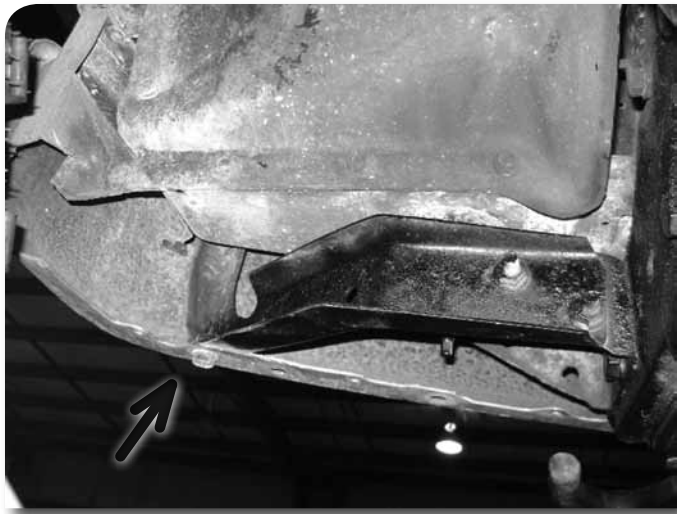

Figure 4
9. Break loose but do not remove the bolts attaching side bumper brackets to the bumper. Remove side bumper bracket hardware at the frame and swing the brackets out away from the frame. **Figure 4** Save hardware.